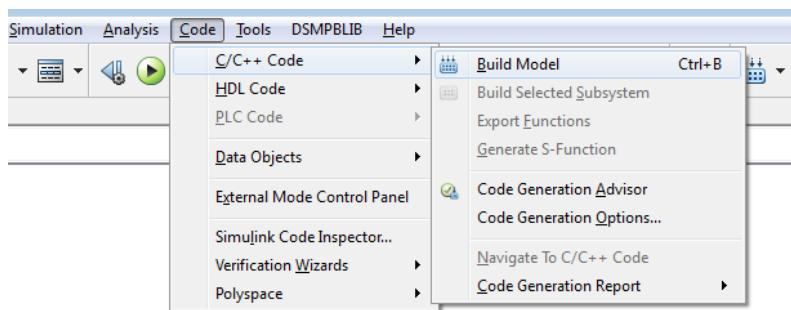
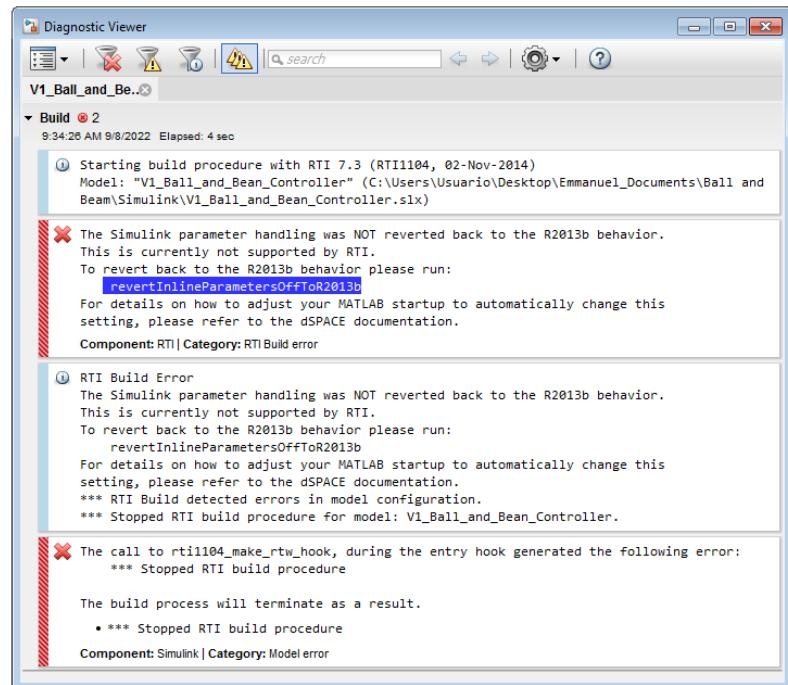

Figure 25: Generation of C code
Figure 26: RTI Error message
6. The final step is to generate the code that will be compiled in the board. In Simulink, go to the menu ‘Code’, and in the option ‘C/C++ Code’ select ‘Build model’, as seen in figure 25 or press **Ctrl+B**. If it is the first time this process is done after opening MATLAB, the error shown in figure 26 will appear in the ‘Diagnostic Viewer’ window. To solve the issue, paste the code shown in the message **revertInlineParameterOffTo2013b** in the command window of MATLAB and press enter. The message shown in figure 27 will appear. In the Simulink model, an icon will appear (‘RTI Data’), showing that the model is associated with a Real Time Interface, as seen in figure 28. A .sdf file, along with other files and folders will appear in the route selected in MATLAB.